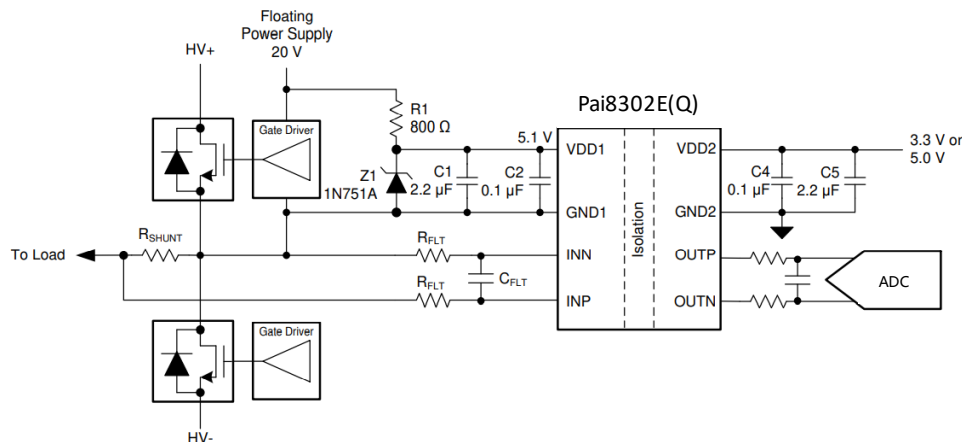

Figure 33. Zener-Diode-Based, High-Side Power Supply
In a typical frequency inverter application, the high-side power supply (VDD1) for the device is directly derived from the floating power supply of the upper gate driver. For lowest system-level cost, a Zener diode can be used to limit the voltage to 5V or $3.3\text{V} \pm 10\%$. Alternatively, a low-cost low-dropout (LDO) regulator may be used to minimize noise on the power supply. A low-ESR decoupling capacitor of 0.1 μF to filter this power-supply path is recommended. Place this capacitor (C2 in Fig33) as close as possible to the VDD1 pin of the Pai8302E(Q) for best performance. If better filtering is required, an additional 2.2 μF capacitor may be used. To decouple the low-side power supply on the controller side, use a 0.1 μF capacitor placed as close to the VDD2 pin of the Pai8302E(Q) as possible, followed by an additional capacitor from 1 μF to 10 μF .